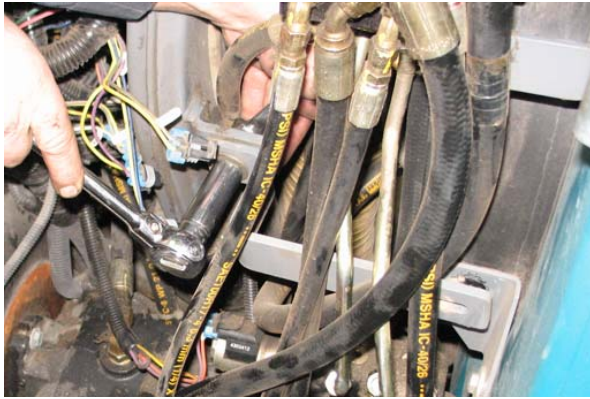

FIG. 16
26. Reinstall the support bracket. (Fig. 16)